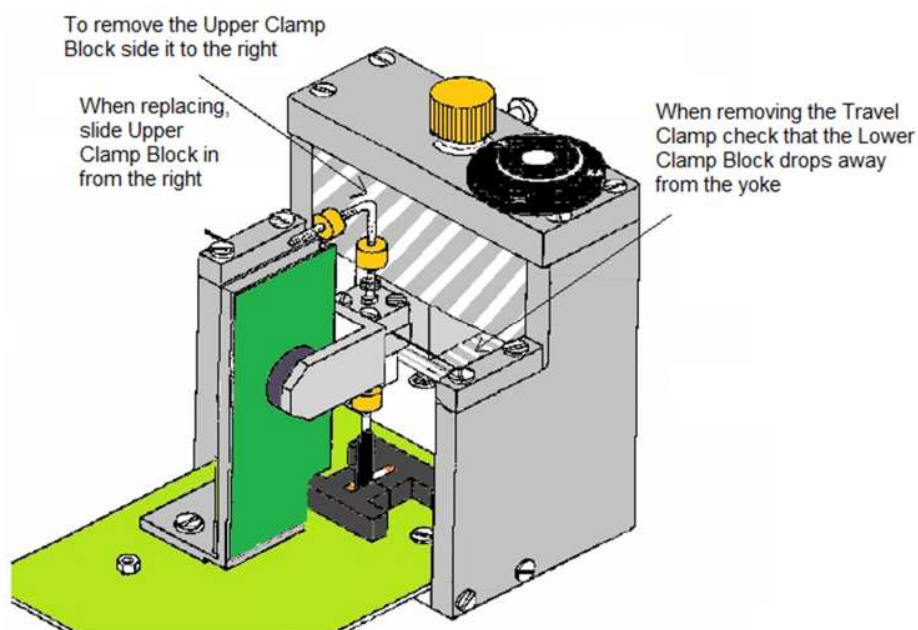

Figure 6
- Slide the plastic (Upper Clamp) Block out of the right hand side of the Frame and put to one side, keep the Plastic Block, do not discard. Check that the Lower Clamp Block has dropped away from the Yoke, Figure 6.
3. Approaching from the right with the chamfered corner to the front right, slide the Upper Clamp Block into position above the balance arm, Figure 6.